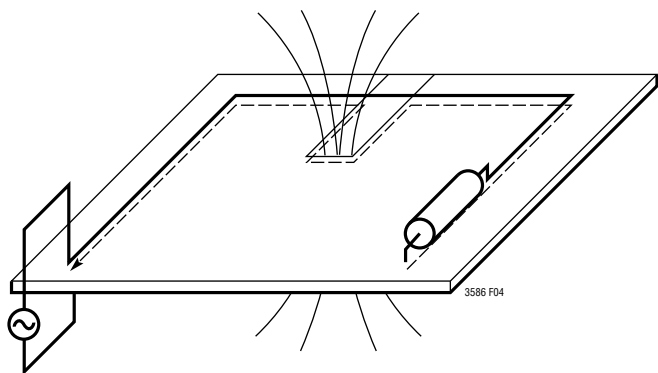

Figure 4. High Frequency Ground Currents Follow Their Incident Path. Slices in the Ground Plane Cause High Voltage and Increased EMI
2. To minimize parasitic inductance, the ground plane should be as close as possible to the top plane of the PC board (Layer 2). High frequency currents in the hot loop tend to flow along a mirror path on the ground plane which is directly beneath the incident path on the top plane of the board as illustrated in Figure 4. If there are slits or cuts or drill-holes in this mirror path on the ground plane due to other traces, the current will be forced to go around the slits. When high frequency currents are not allowed to flow back through their